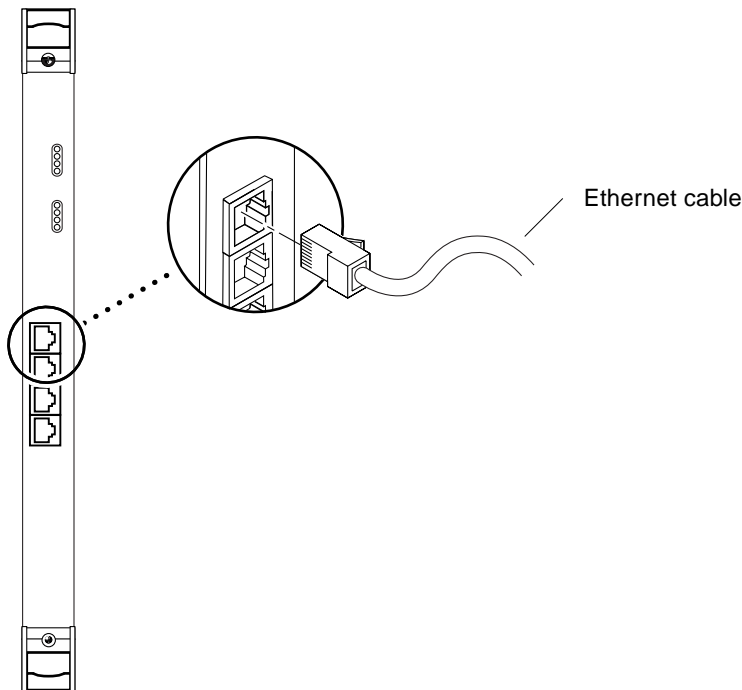

FIGURE 2-12 Connecting Cables to the Rear Transition Card
2. Connect one end of an Ethernet cable to an Ethernet port on the rear transition card (see FIGURE 2-12).